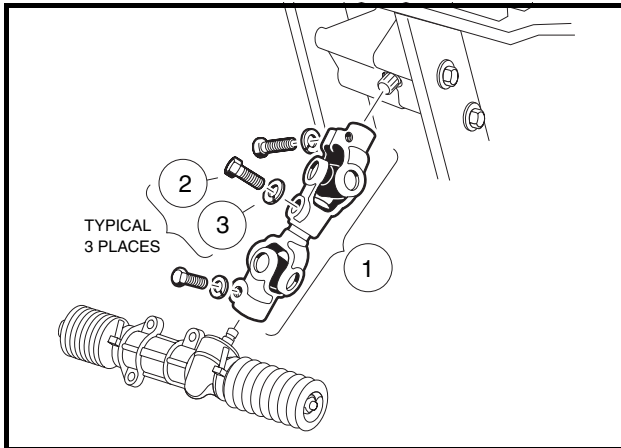

Figure 14-8 Compound Steering Joint
3. Remove the steering joint assembly (**Figure 14-8, Page 14-13**).
- 4.1. Position steering joint assembly (1) on vehicle as shown. Install three lock washers (3) and three bolts (2) and tighten to 15 ft-lb (20.3 N·m) (**Figure 14-8, Page 14-13**).